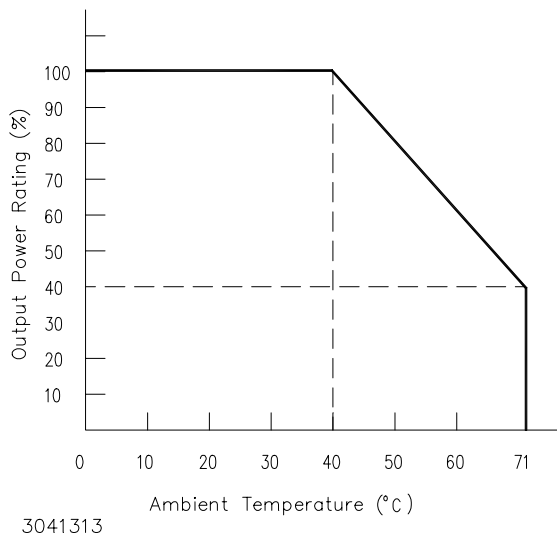

FIGURE 4. % OUTPUT POWER RATING VS. AMBIENT TEMPERATURE
- (1) Derates same as Output Power.
(2) See power derating curve, Figure 4.
OPERATING TEMPERATURE: See Figure 4.